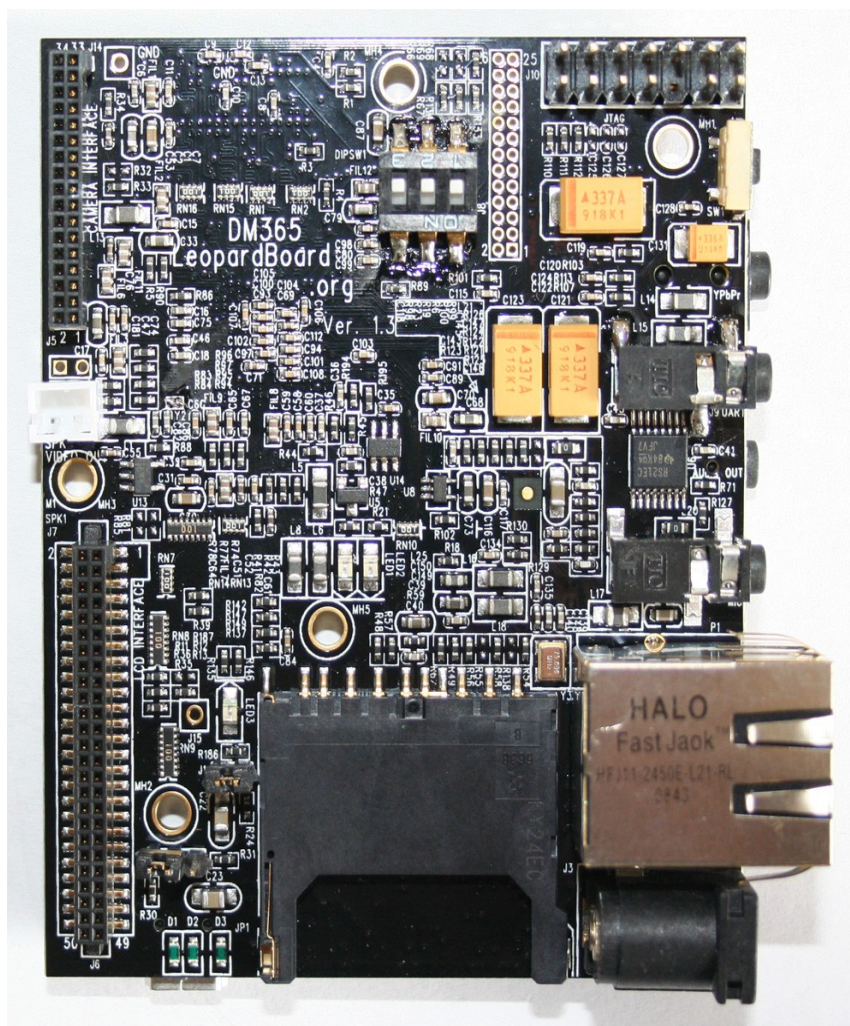

Figure 2. Leopardboard 365
1.1 Leopardboard 365, see Figure 2.